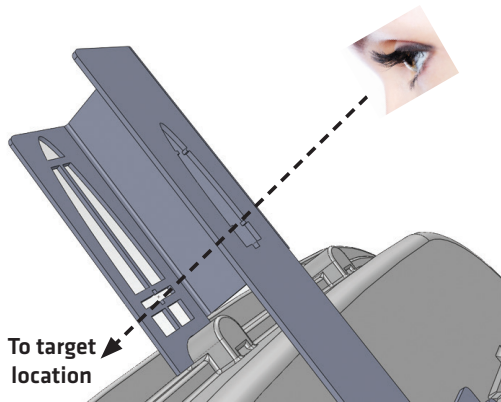

Figure 1.12 – Viewpoint 1
- 2 With your eyes about one foot from the viewfinder, look directly through the target crossbars (viewpoint 1). Tilt the sensor until the space between the target crossbars is at the level of the target location (see Figure 1.12).